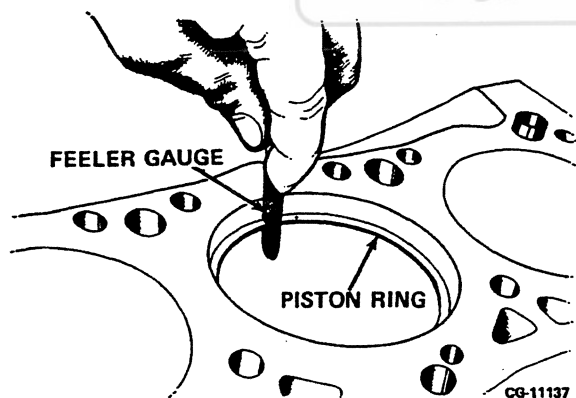

Figure 5.22. Checking Ring Gap
- b. Measure the gap between the ends of each ring with a feeler gauge as shown in Figure 5.22.